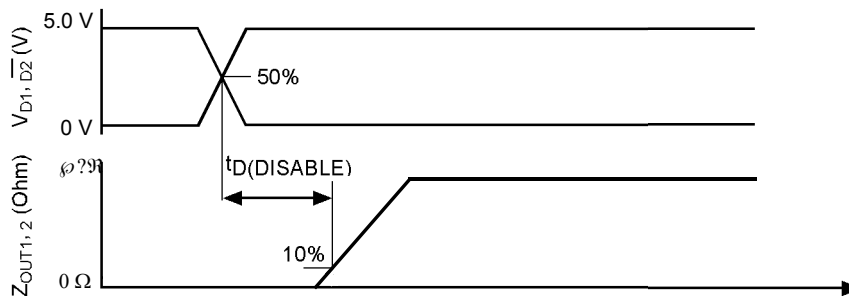

Figure 7. Disable Delay Time
- 31 Disable Delay Time is the time duration from the midpoint of the D (disable) input signal to 10% of the output tri-state response. See Figure 7, page 12.